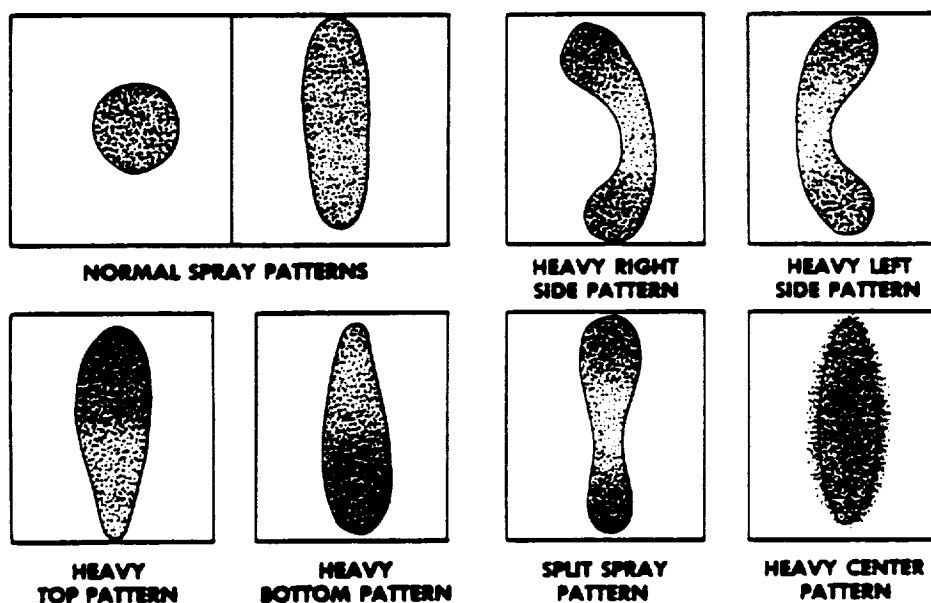

Figure 5-8. Defective Spray Patterns
(4) Heavy left side pattern is due to:
(5) Heavy center pattern is due to:
(6) Split spray pattern is due to an imbalance in the air and fluid pressure.
(7) To remedy the conditions described in (1) through (4) above, determine if the obstruction is on the air cap or the fluid tip. Rotate the cap one-half turn and spray a test pattern. If the defect is inverted, the obstruction is on the air cap; if it is not inverted, the obstruction is on the fluid tip. Clean the air cap as instructed in paragraph 5-6. See figure 5-8 for examples of the conditions described in (1) through (4) above.
(8) To remedy the conditions in (5) and (6) above, readjust the atomizing pressure, fluid pressure, and spray width adjustment until the desired spray is obtained. See figure 5-8 for examples of the conditions described in (5) and (6) above.